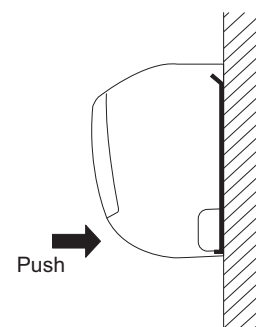

Fig. 2-216
- (1) To install the indoor unit, mount the indoor unit onto the 3 tabs on the upper part of the rear plate.
- (2) Hold down the air discharge outlet and press the lower part of the indoor unit until it clicks to securely fasten to the 2 tabs on the lower part of the rear plate. (Fig. 2-216)